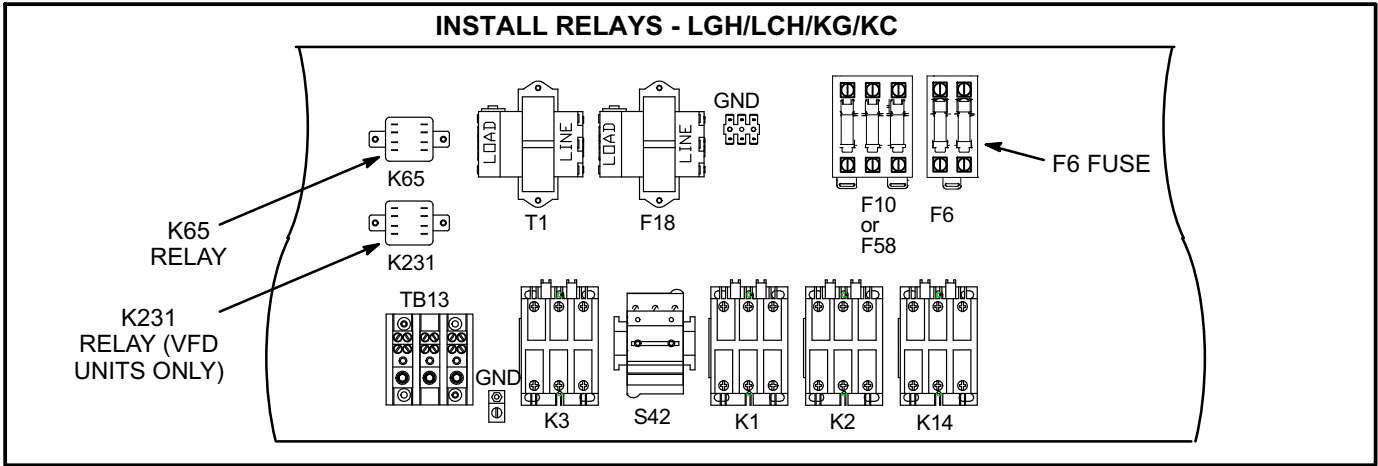

FIGURE 1
- 2- Install K65 exhaust fan relay in unit control box using screws provided. On units equipped with a variable frequency drive (VFD), install K231 in addition to K65. See figure 1 or 2.
- 3- Install F6 fuse block near F10 or F58 fuse block. Insert fuses provided. See figure 1 or 2.